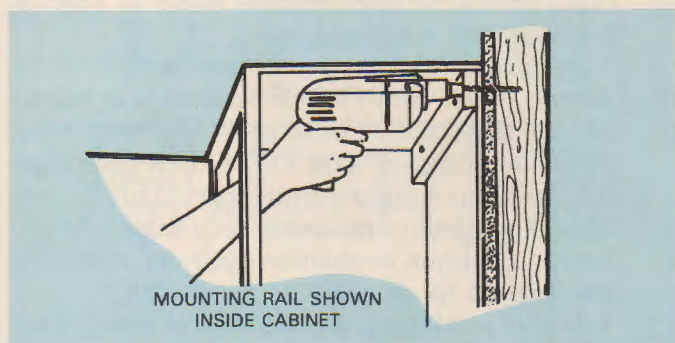

Fig. 49-31. After you drill clearance holes in the cabinet, drill pilot holes into the stud. (Jae Company)
4. Drill pilot holes 1 3/4 in. into studs, Fig. 49-31.